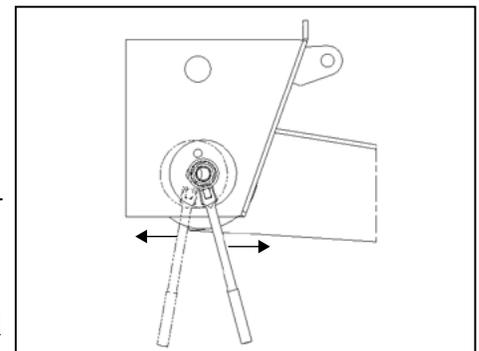

Figure 5
3.2 To move the axle, insert a $1/2$ " square shank breaker bar into the square hole on the adjuster plate and push or pull (Figure 5). The adjustment should be made in equal amounts on both sides of the hanger to ensure the bushing is seated squarely between the hanger sidewalls.